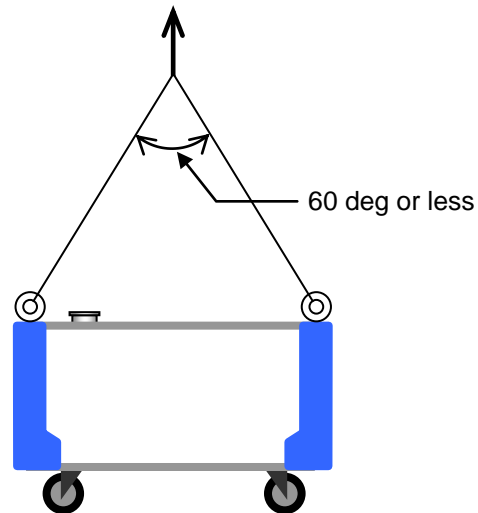

Fig. 8.1 Slinging the Pump
- (1) Stop the pump and replace all gases inside the pump by purging them with dry clean air. When the pump has been used for toxic or flammable gases, replace all gases inside the pump by purging them with N₂ gas.
- (2) Switch off the power supply to the pump and remove the power and signal wires.
- (3) Remove the vacuum and exhaust pipes and completely seal off the suction and exhaust ports of the pump with a blind flange or similar seal. Seal off all process gas discharge points such as the differential port by using a blind flange.
- (4) Wrap the pump in a vinyl sheet.
- (5) Use the lifting eye bolts provided on the pump for slinging the pump to load and unload. Fasten eye bolts completely and push in until flush with the seating surface. For sling, use a wire with a length so that the slinging angle (that is, the angled subtended by the two wires) is within 60 degrees. (see Fig. 8.1)